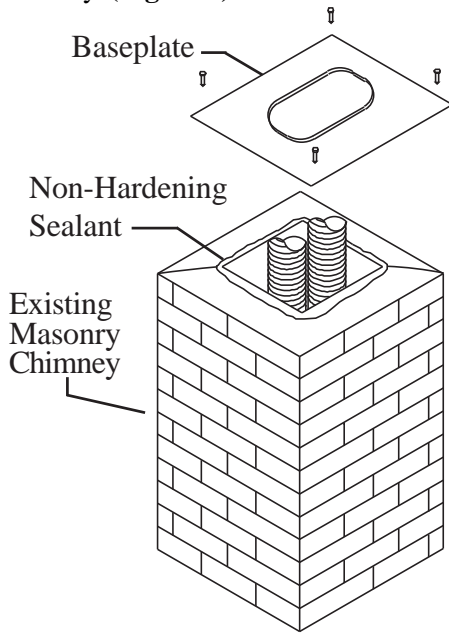

Figure 5
Step 6. At the top of the chimney, slide the Baseplate over the two ends of the Flex Liner and secure it to the surrounding masonry using masonry anchor bolts. Before installing the baseplate, run a bead of non-hardening sealant between the Baseplate and the masonry to prevent moisture from entering the chimney. **(Figure 5)**